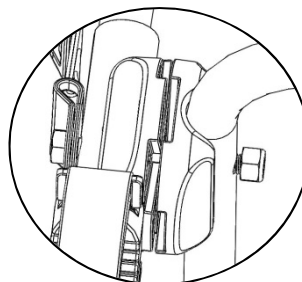

Fig. 5
- A. Loosen the 5/16" locknuts on the Middle Support Frame. As the locknuts are loosened, the Outer and Inner Supports should begin to separate as shown in Fig 5.
- B. Once Outer and Inner Supports are separated, swing Support Arms downward to fold. (Fig 5/6)